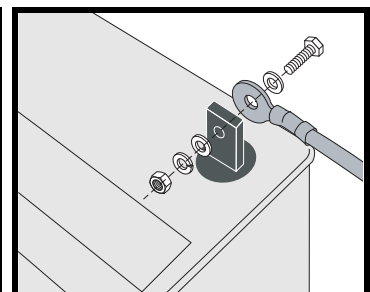

Figure 12B. Cable To Terminal Connection
**NOTE:** See figure 12B for correct hardware placement for battery terminal connections.